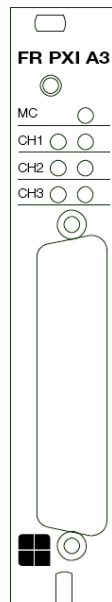

Figure 4: FlashRunner FRPXIA3, front panel view
- Figure 4: FlashRunner FRPXIA3, front panel view 16